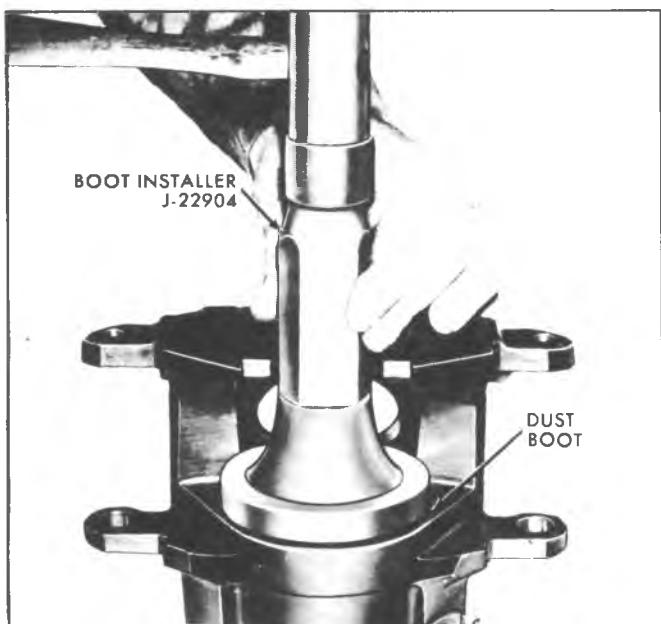

Fig. 63-Installing Boot to Caliper
4. Position the dust boot in the caliper counterbore and seat using Boot Installer Tool J-22904 as shown in Figure 63.